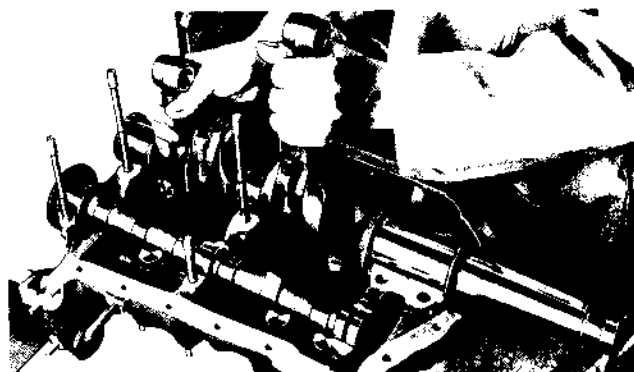

Figure 20. Installing and Removing Crankshaft and Connecting Rods.
(1) Oil bearings thoroughly. Lay crankshaft, with connecting rods assembled, into place in the No. 2-4 crankcase. (Fig. 20). The No. 2 and No. 4 connecting rods must be carefully guided through the No. 2 and No. 4 cylinder ports of the crankcase, taking care that they do not strike and damage the openings.
(2) Check end clearance of crankshaft in the crankcase as specified in the Table of Limits.